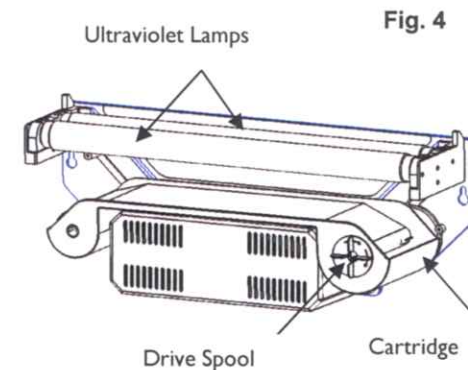

Fig. 4
2. Rotate the drive spool of the cartridge in the direction of the arrow shown on the drive spool until the paper is adhered to itself on the drive spool. (fig. 4)
3. Position the cartridge on the front of the motor enclosure. Push the cartridge in until it stops. (fig. 4 & 5)